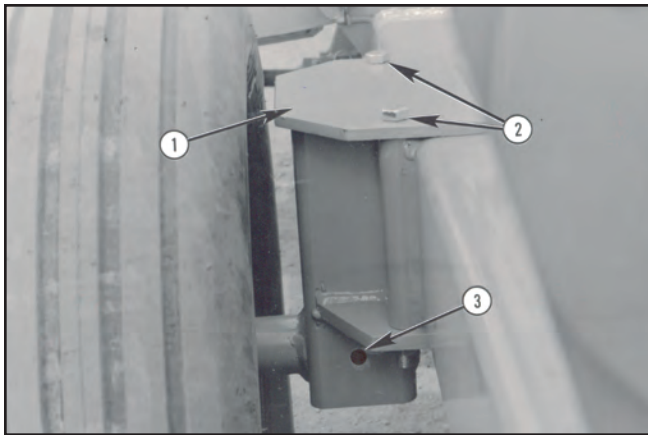

FIGURE 116
3. Install front receptacle (1) with 2 1/2" x 6 1/2" bolts and locknuts at location (2). See Figure 116.
6. Slide wheel spindle into receptacle and insert 5/8" lock pin thru hole (3) and retain with its Q.A. hairpin.